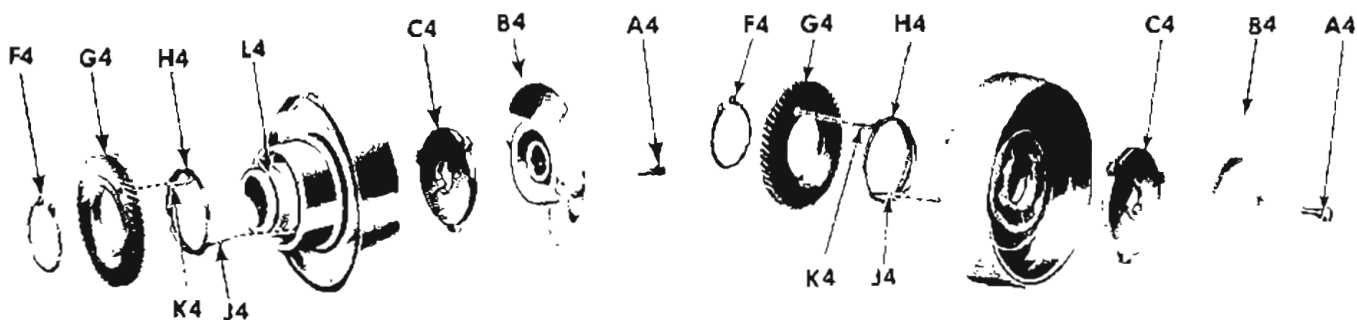

Fig. 33. Exploded View - Hand Wheel Assembly
1. Remove screw A4 from stop motion nut B4, Fig. 33.
5. Using extension pliers, remove snap ring F4, Fig. 33 from hand wheel assembly.
2. Place gear G4 on hand wheel, fitting other end K4 of spring H4 in hole provided for it in gear G4. (See Fig. 33.)
7. Replace clamp washer C4, Fig. 33 on arm shaft.